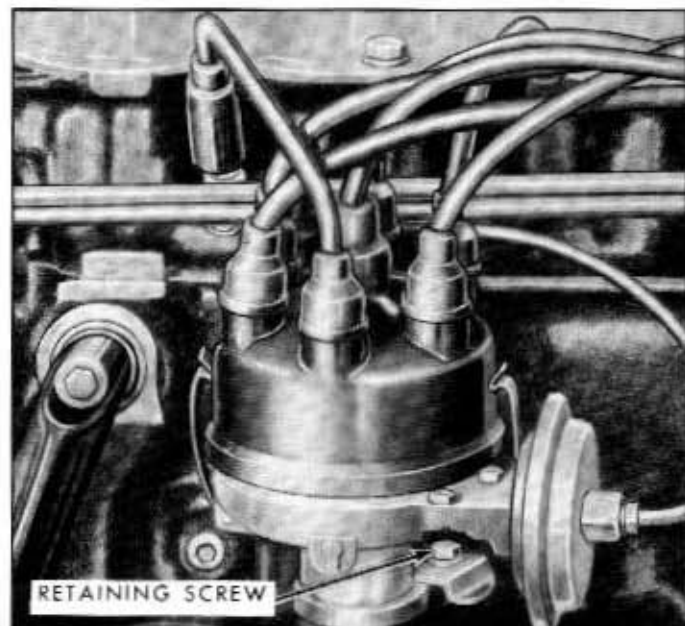

Fig. 9-53—Distributor Installation—(60C-7710)
3. Remove the screw, lockwasher and clamp and pull the distributor out of the block. (Refer to figure 9-53). Do not rotate the crankshaft while the distributor is removed or it will be necessary to time the engine.